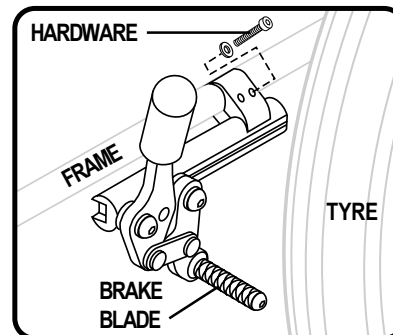

Figure 14. Park Brake Adjustment
3. Loosen the hardware that fastens the park brake to the frame. See figure 14.